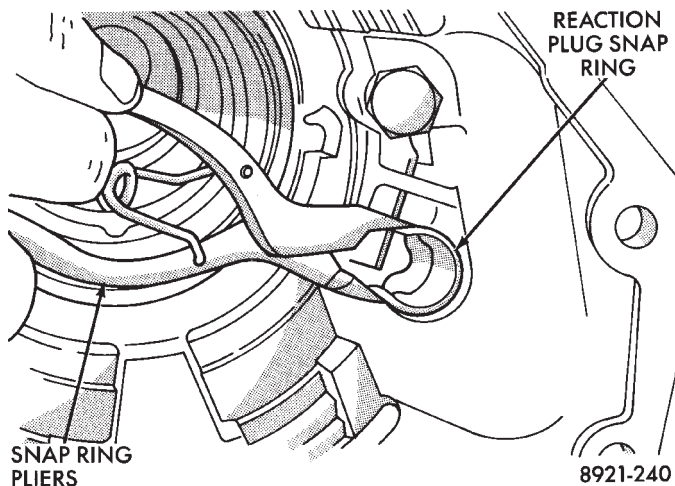

Fig. 61 Reaction Plug And Snap Ring Installation
(13) Install reaction plug snap ring (Fig. 61). **Compress snap ring only enough for installation; do not distort it.**